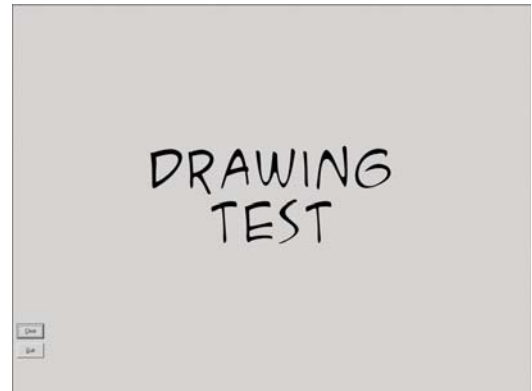

Figure 13
2. Draw on the screen with your finger or a stylus and notice if the screen is displaying your drawing accurately (see Figure 13).